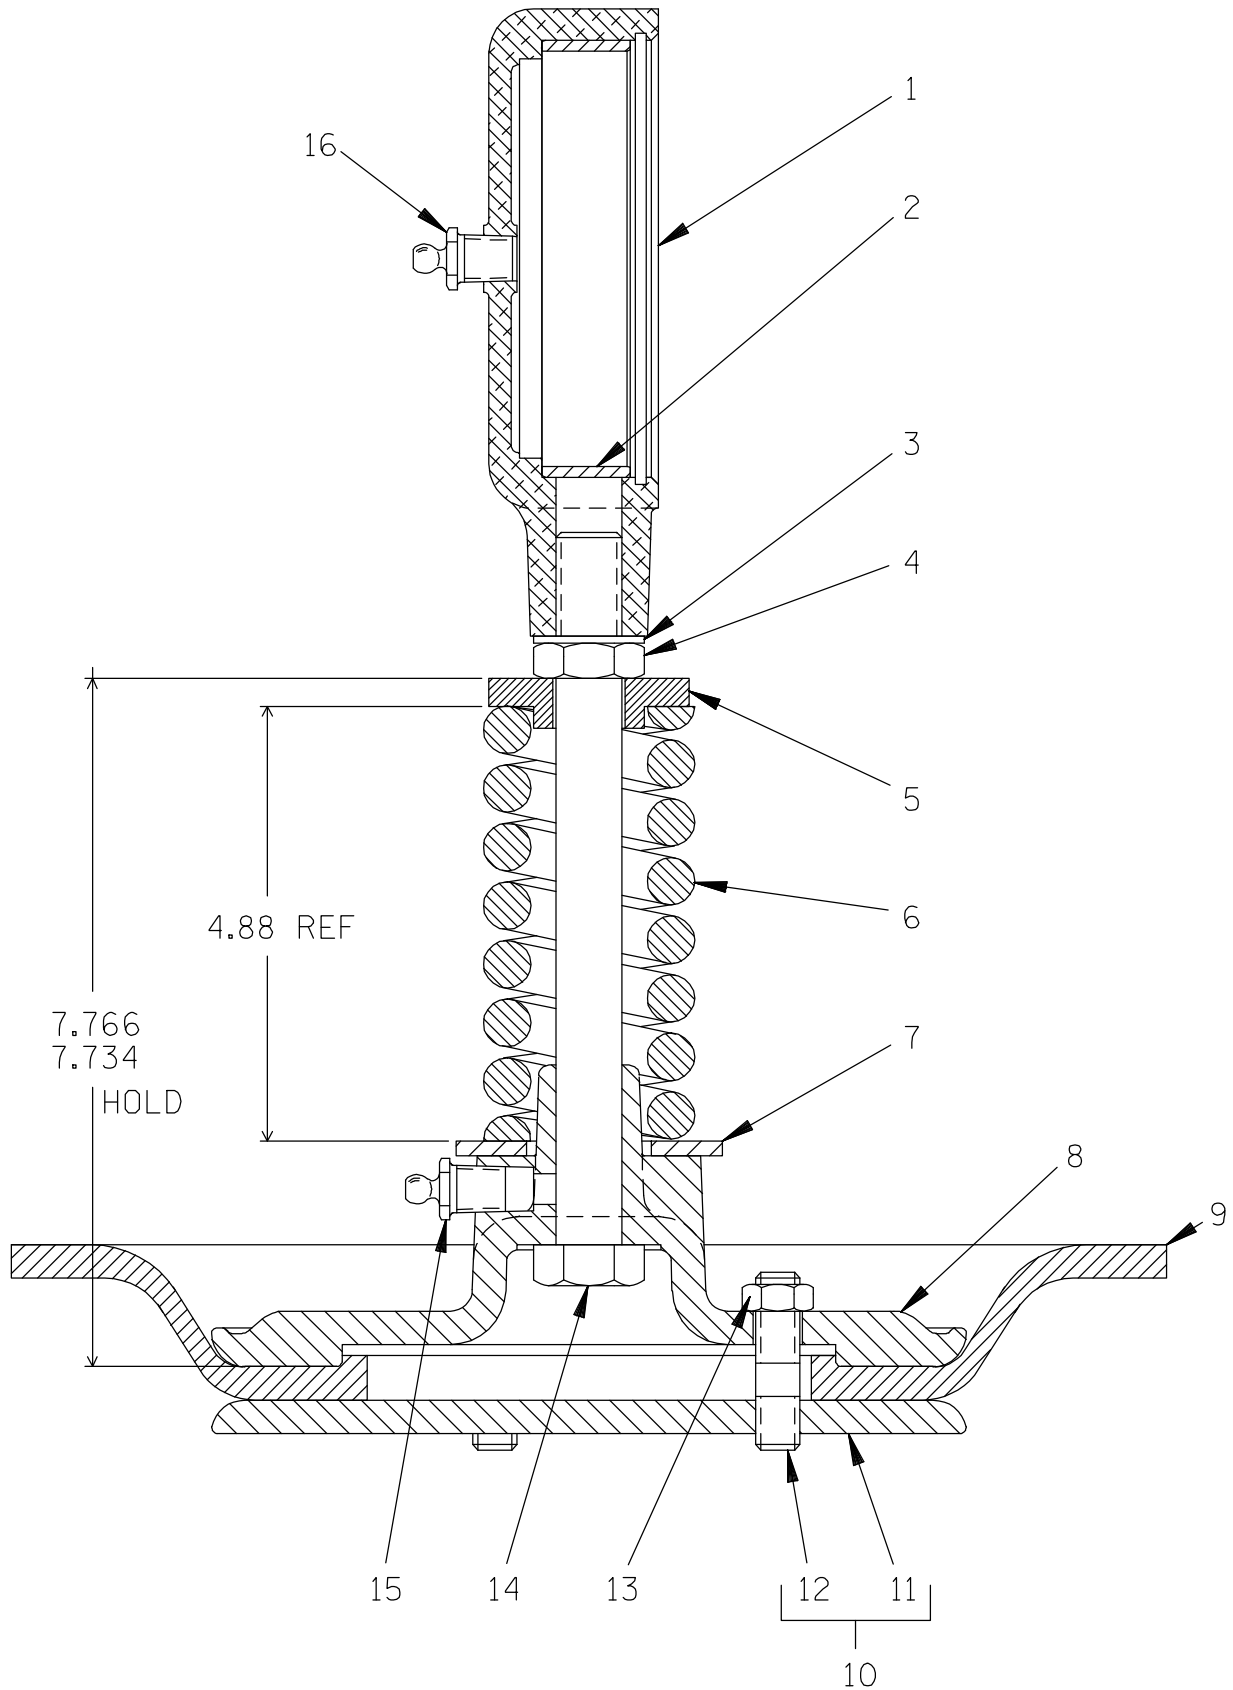

Figure 3. Standard 5685 Plunger Rod Assembly
To remove the diaphragm (9, Figure 3), disengage the hardware (33, 34 and 35) and remove the diaphragm pot assembly (36). Inspect the diaphragm ring (37) for wear or damage. If replacement is required, the gearbox assembly (10) and the eccentric guard (1) must be removed.
### (Figure 3)